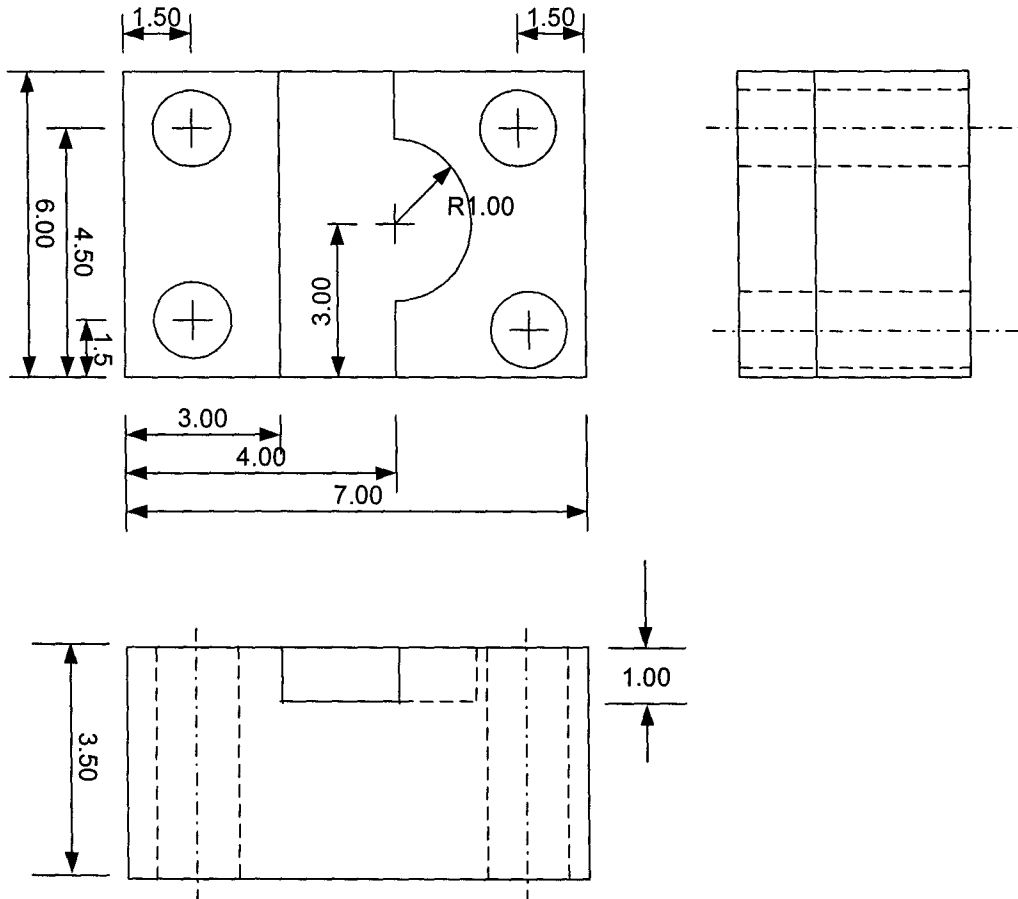

Figure 1 Workpiece
9. The part drawing shown in Figure 1 is to be machined from a 6 in. × 7 in. × 3.5 in. workpiece. The workpiece material is low-carbon steel. We will use a hypothetical 3-axis CNC machining center for the process. The process plan for the part is as follows:
Table 1 Part program for the workpiece in Figure 1